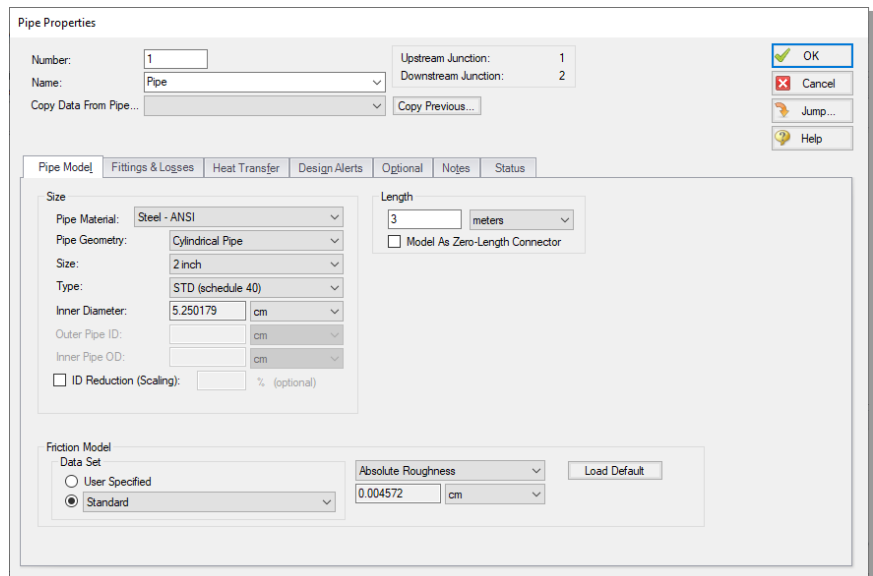

Figure 2.11 Properties window for Pipe P1
- **First, open the Pipe Properties window for Pipe P1.** For Pipe P1 choose Steel - ANSI, 2 inch, STD (schedule 40), Standard friction model, and a length of 3 meters (Figure 2.11).